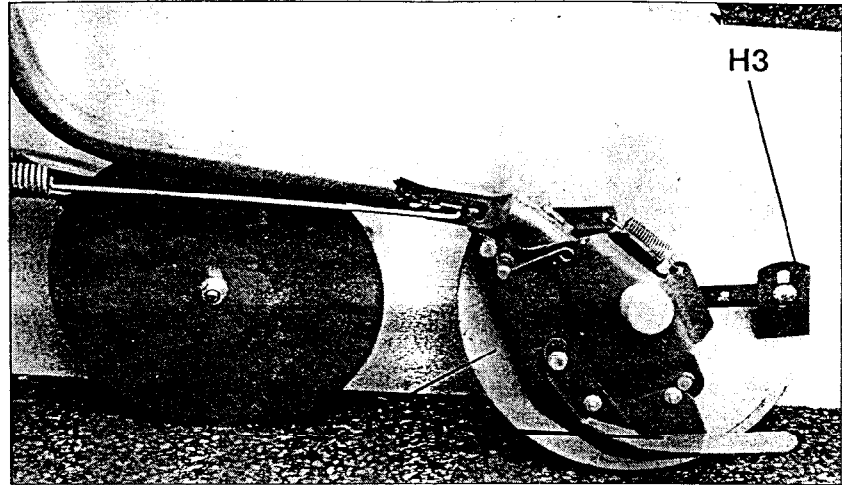

Fig. 24
- Single disc coulters (Fig. 24)